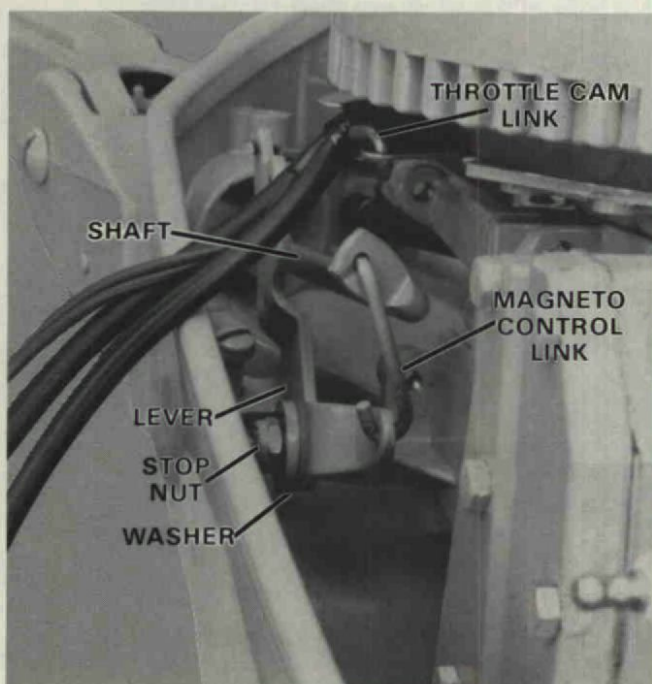

Figure 1. Disconnecting Magneto Control Shaft.
- A. Remove stop nut and washer from magneto control lever. Figure 1.